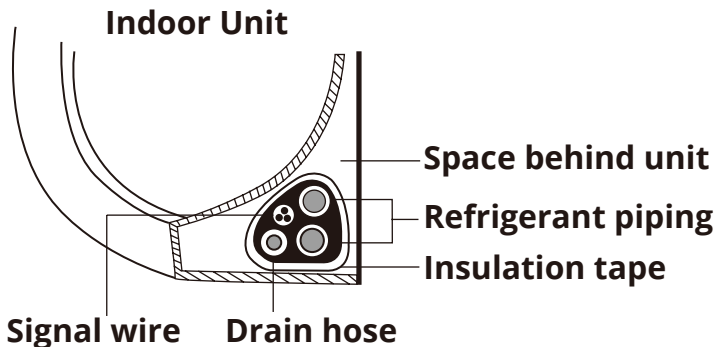

Fig. 5.15
1. Bundle the refrigerant pipes, drain hose, and signal cable in the orientation as shown in Fig. 5.15.